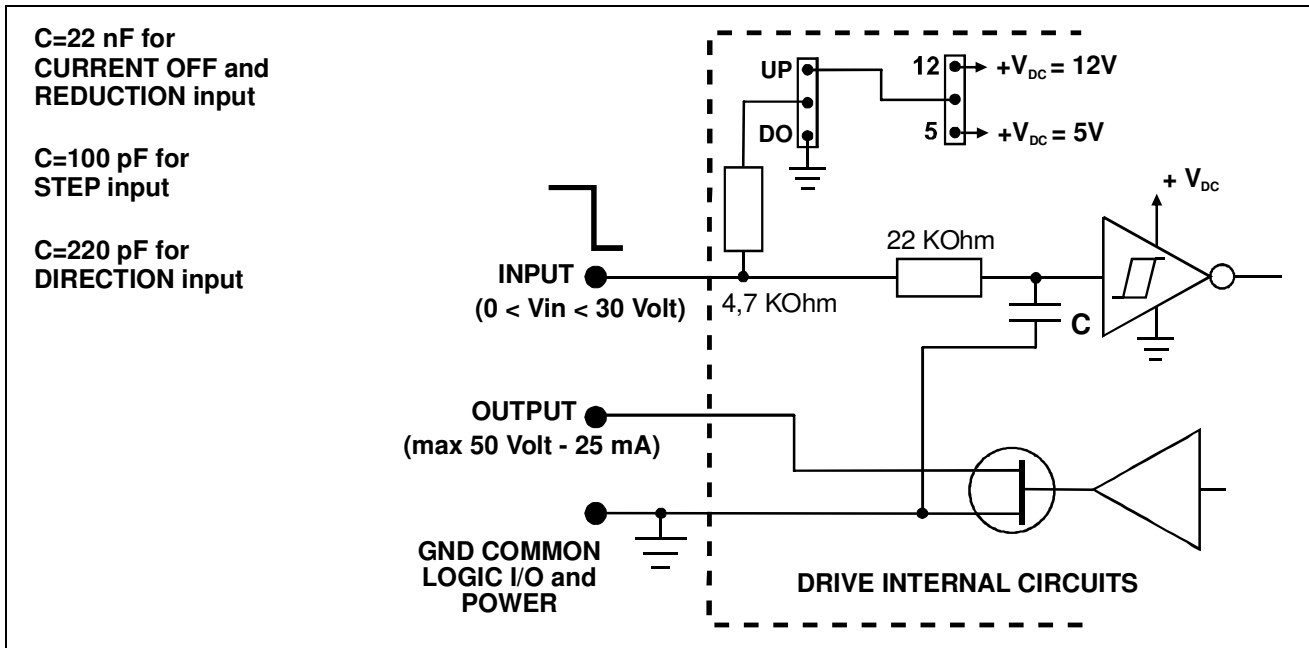

Fig. 2
4.6 - Inputs and outputs are **internally** realized as shown in fig. 2.